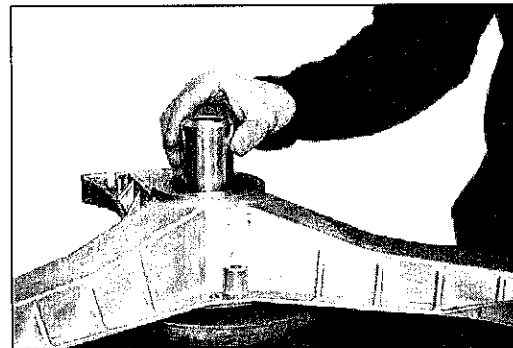

fig. 14
- Introduce the bearings' end-piece into the bearings' box and position it over the **B** centring tool. The conical side facing outward (fig. 14).